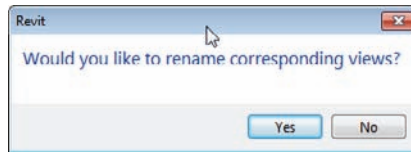
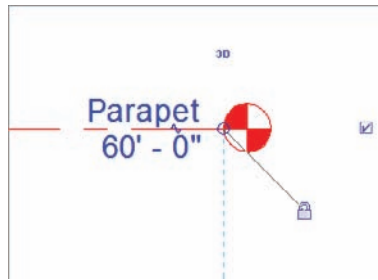

FIGURE 3.11 Click Yes to rename corresponding views.
FIGURE 3.12 The renamed level
5. Revit will ask whether you want to rename any corresponding views. Choose Yes (see Figure 3.11). Level 7 is now the Parapet level, as shown in Figure 3.12.